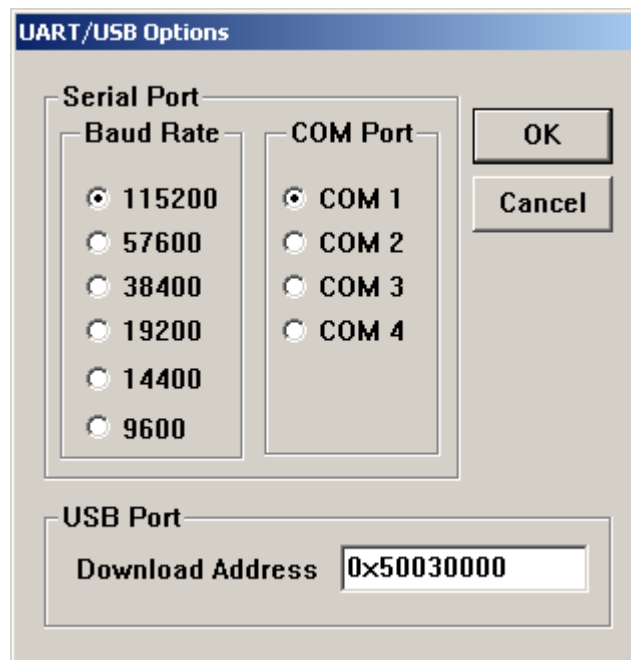

Figure 6-2 UART/USB Options
5. On the **Configuration** menu in the DNW window, click **Options** to set the UART/USB options. The following window appears on your screen. Select Baud Rate and COM Port as shown in figure 6-2, enter the download address as **0x50030000** and then click **OK** button.